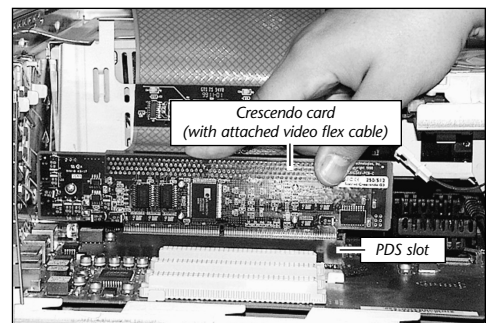

Figure 17: Install Crescendo card into PDS slot
14. Align the Crescendo card over the PDS slot on the logic board with the card's heatsink facing toward the power supply. Gently press down until the card is firmly seated in the PDS slot (**Figure 17**).